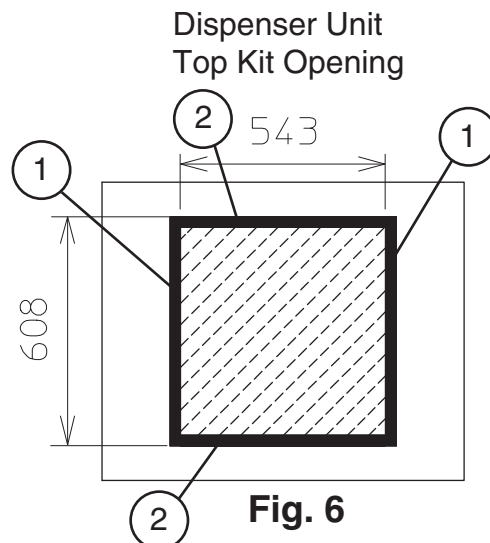

Fig. 6
- 4) Adhere the four gaskets around the opening on the top of the dispenser unit top kit. See Fig. 6.